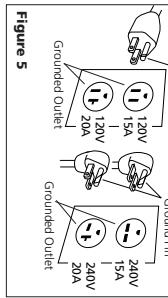

Figure 5
plug illustrated in Figure 5. Make
1. If the plug on the electrical cord of the unit is unfamiliar to you or will not fit your particular receptacle, Figure 5 will help you understand why by illustrating the different plugs and the voltages they are to be used with.
the receptacles shown in Figure 5, you can determine for which voltage your compressor is factory wired. Also check motor lead to change from low voltage to high voltage.